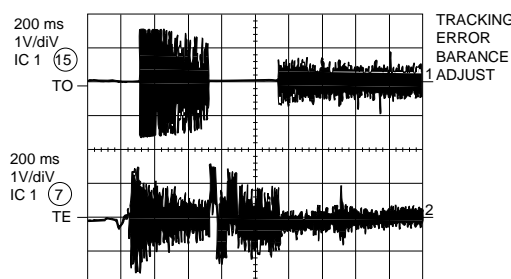

Figure 11-4
3. E/F balance (tracking error balance) (Fig. 11-4)